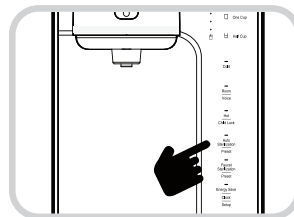

Fig. 15
2. Press the Automatic Sterilization/Preset button if the Automatic Sterilization/Preset button Display Lamp is OFF. (Fig. 15).